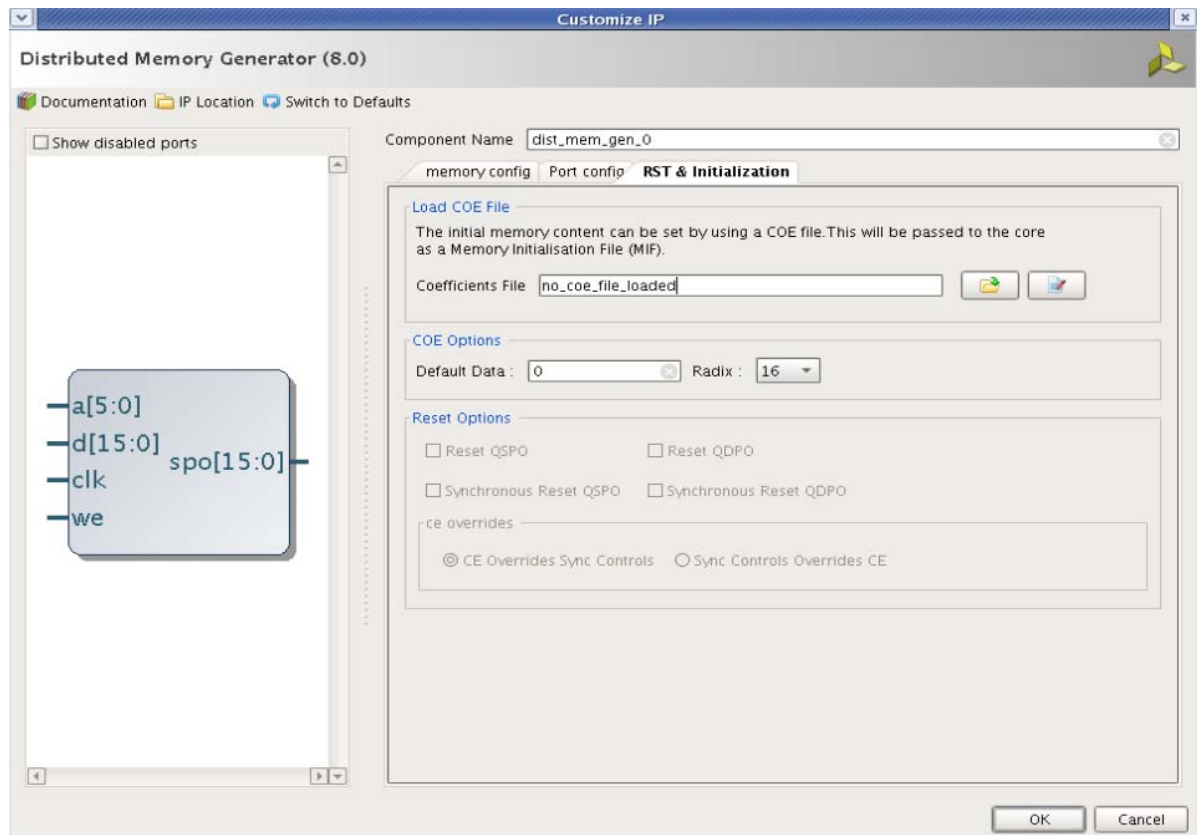

Figure 4-3: Initial Content and Reset Options Screen
- Initial Content and Reset Options Screen (Figure 4-3)